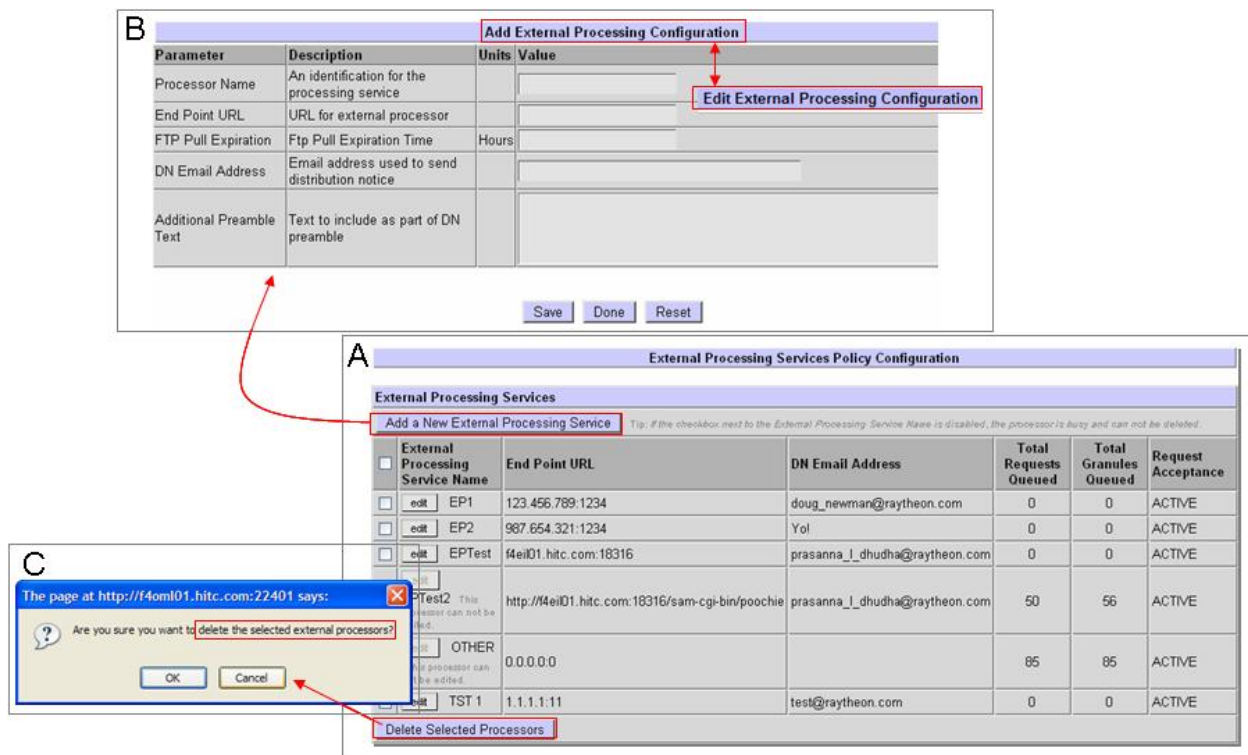

Figure 15.10-8. External Processing Services Policy Configuration Page
Special configuration parameters that control external processing requests are displayed on the **External Processing Services Policy Configuration** page (Figure 15.10-8, Frame A).
2 Click **External Processing** submenu option to display its **External Processing Services Policy Configuration** page (Figure 15.10-8, Frame A).
- The **Add External Processing Configuration** page (Figure 15.10-8, Frame B) displays (if editing, the **Edit External Processing Configuration** page displays).
10 Click **OK** to confirm deletion, at the deletion prompt (Figure 15.10-8, Frame C) dialog box and to delete selected external processors.